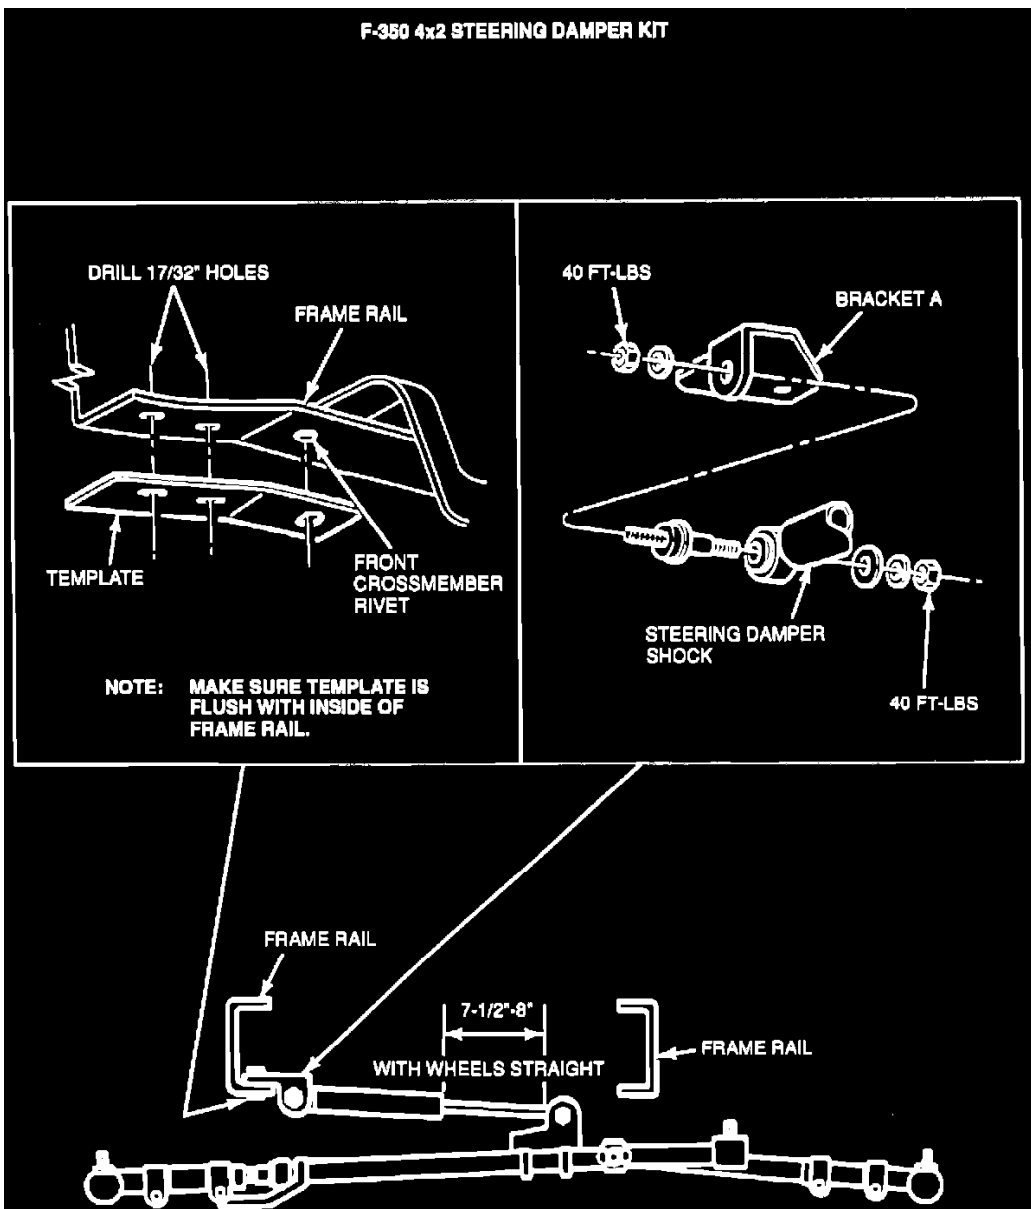

Figure 13
4. Check the truck for the presence of a steering damper on F-350 DRW 4x2 vehicles. See Figure 13, 14 and 15 for a step by step installation procedure.